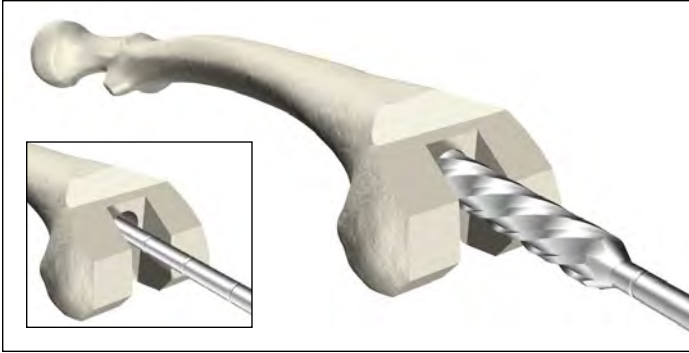

Figure 16
- Ream to the desired depth of stem or length of fixation preferred for femoral alignment. Grooves along the shank of the reamer indicate the depth of the reamer in the canal (**Figure 16**).